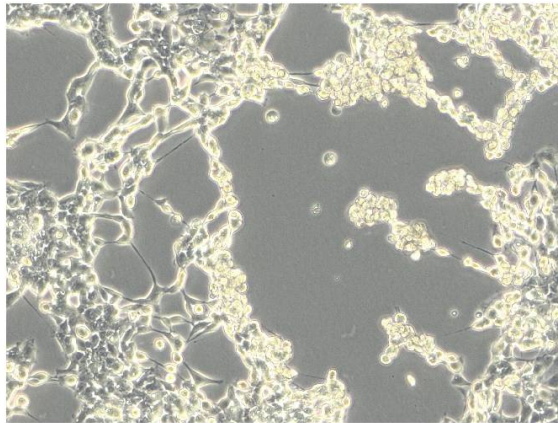

Figure 5. Observing the cytopathic effect when culturing adenovirus.
4. One day later, and periodically thereafter, check for the cytopathic effect (CPE) (Figure 5).
- Infected cells typically remain intact but round up and may detach from the plate. These changes are collectively referred to as the CPE (see Figure 5).
the infection cycle, high-titer virus is obtained by manually lysing cells with a series of freeze-thaw cycles as explained below in Steps 5–9. It is best to harvest cultures demonstrating a late CPE phenotype (see Figure 5).